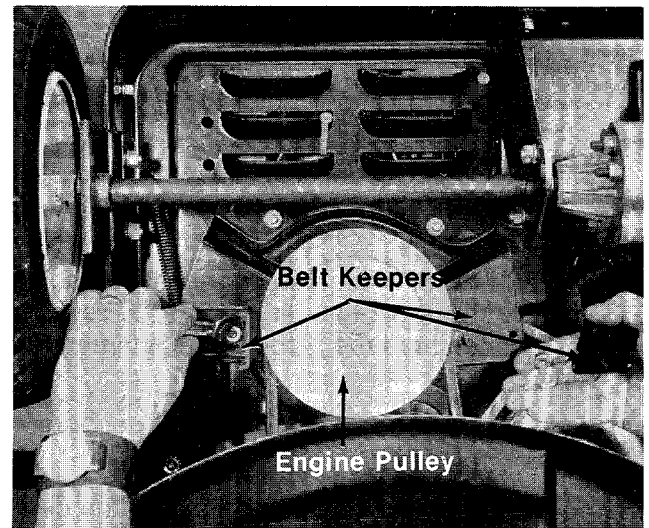

FIGURE 23. REMOVAL OF BELT KEEPERS
2. Remove two belt keepers at the engine pulley. See figure 23.